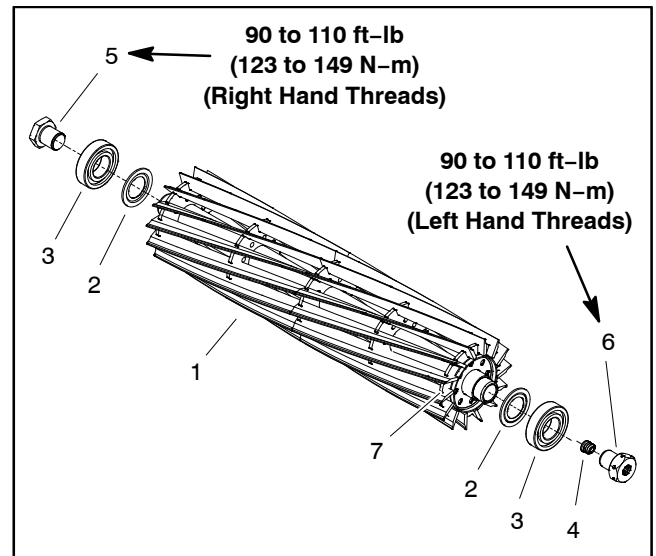

Figure 26
3. Remove two (2) cap screws and nuts that secure weight (item 10) to the RH side plate. Remove weight from the cutting unit. Remove and discard O-ring from weight.
5. If bearings or seals are to be removed from cutting reel, put a block of wood between the cutting reel blades to prevent the reel from rotating. Loosen bearing lock nut (RH threads) and reel nut (LH threads) to allow easier removal after reel assembly is removed from cutting unit (Fig. 26).
8. Remove washer head screws (item 3) that secure crosslink (item 15) to pitch arms. Remove crosslink.
10. Remove shoulder bolts (item 4) and flange nuts (item 5) that secure the LH side plate to the cutting unit crossmember. Remove the LH side plate from the reel shaft, rollers, bedbar and cutting unit crossmember. Locate and remove flat wire spring (item 14). Remove pitch arm (item 7) from side plate.
3. Position the cutting unit on a flat work area. The rollers, bedbar and cutting unit crossmember should be attached to RH side plate. Make sure that pitch arm (item 7) is fitted to RH side plate.
6. Install shoulder bolts (item 4) and flange nuts (item 5) to secure the LH side plates to the crossmember. Torque the shoulder bolts from **210 to 240 in-lb (24 to 27 N-m)**.
7. Position crosslink to pitch arms and secure with washer head screws (item 3).
8. If bearing lock nut (RH threads) and reel nut (LH threads) were loosened during cutting reel service, put a block of wood between the cutting reel blades to prevent the reel from rotating. Torque bearing lock nut (RH threads) and reel nut (LH threads) from **90 to 110 ft-lb (123 to 149 N-m)** (Fig. 26).
13. Install new O-ring (item 12) on weight (item 10). Secure weight to RH side plate with two (2) cap screws and nuts.